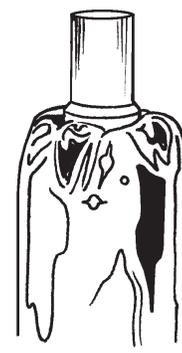

Figure 11
1. Using the cool-melt glue gun, mount one of the plastic inserts between the bottle feet (Figure 11). Align the insert vertically with the bottle.